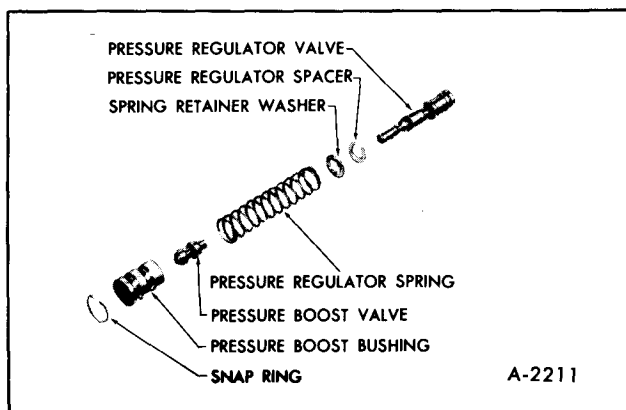

Figure 103—Pressure Regulator Valve
1. Install spring retainer on pressure regulator spring. Also install spacers if previously removed, Figure 103.